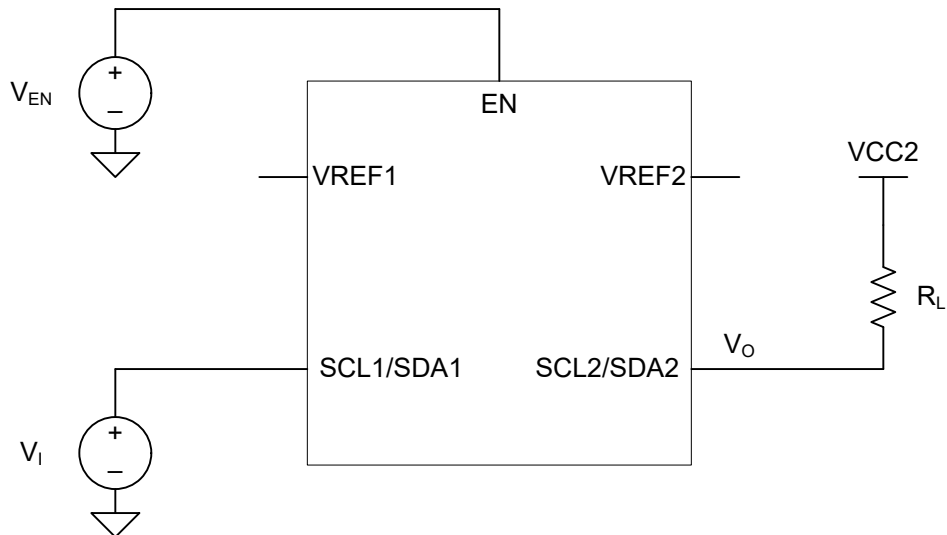

图 7-2. Direct Propagation Measurement
(1) Guaranteed by simulation, not tested in production
(2) Translating Down: the high-voltage side driving toward the low-voltage side. See Fig 7.2 *Direct Propagation Measurement*
(2) Translating up: the low-voltage side driving toward the high-voltage side. See Fig 7.2 *Direct Propagation Measurement*